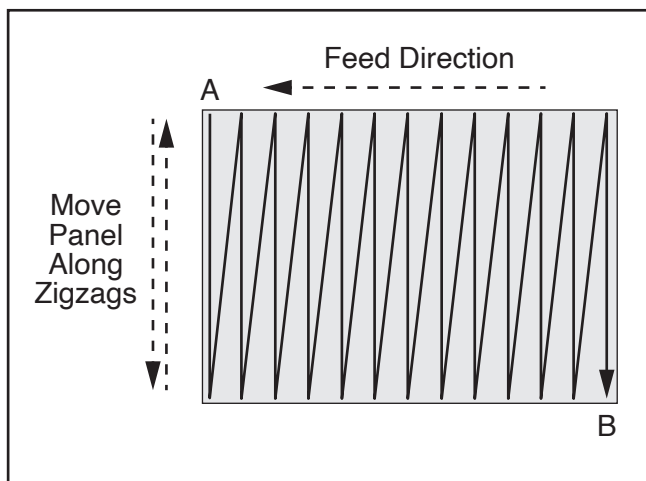

Figure 26. Zigzagging while feeding workpiece to other side.
6. Continue feeding workpiece to other side in same manner, following pattern shown in **Figure 26**.